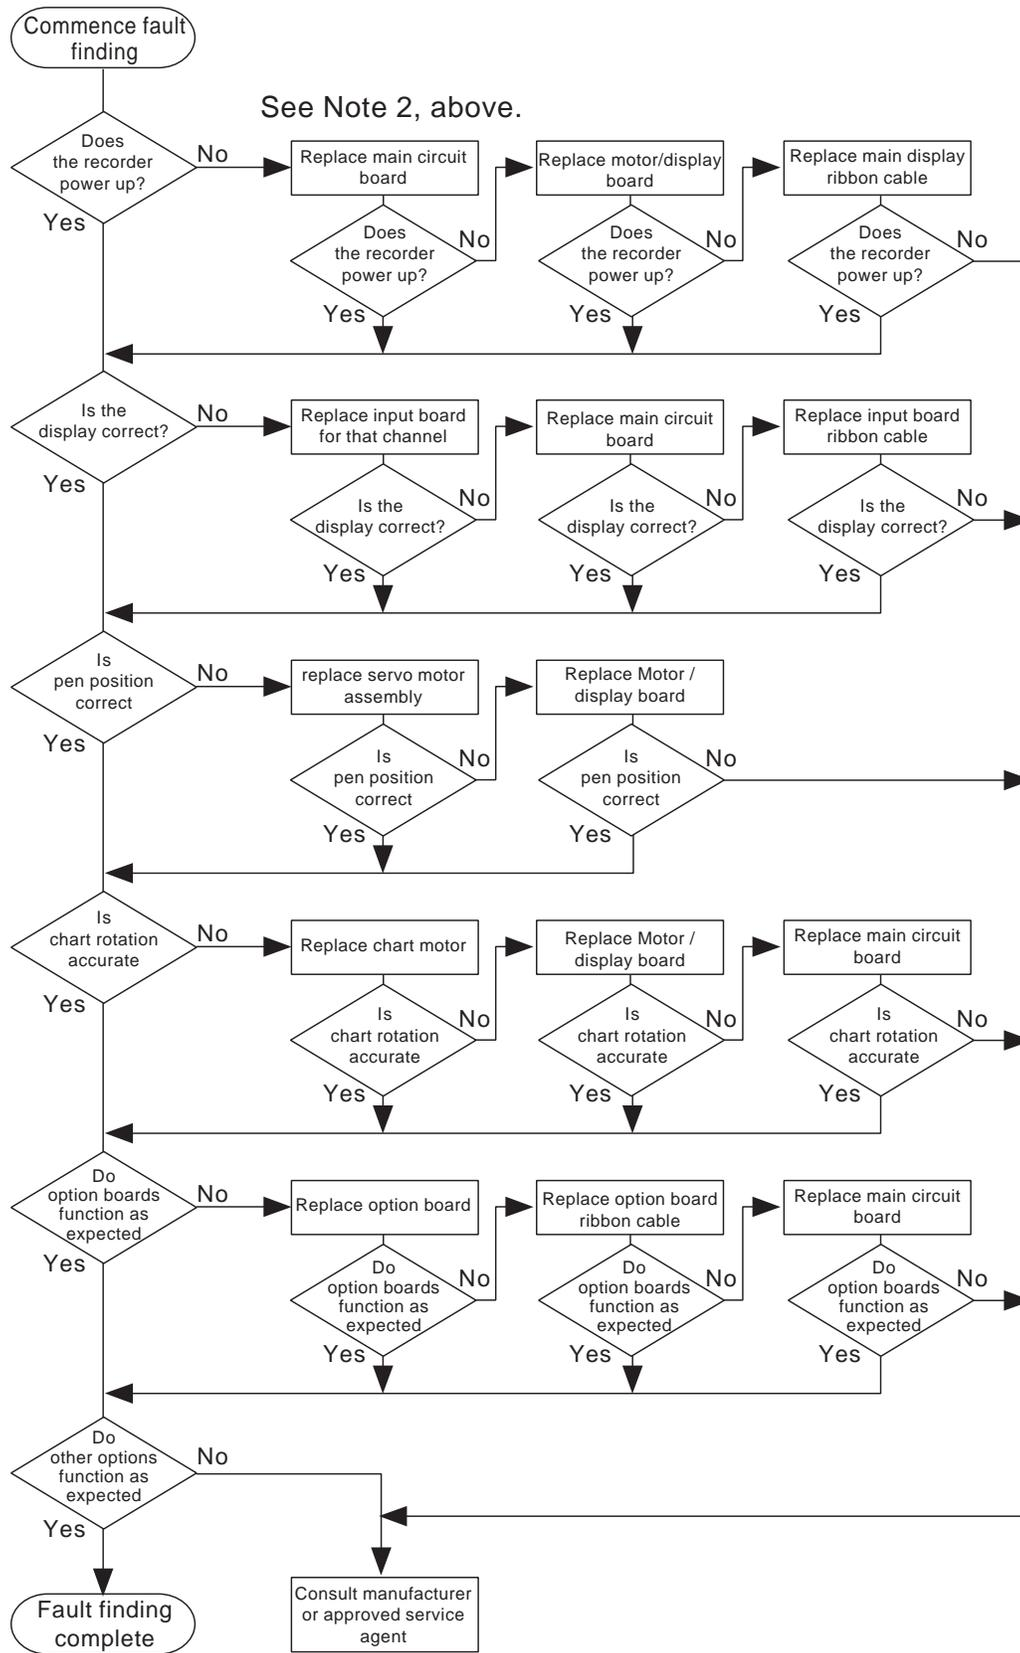

Figure 6.3 Fault finding guide
2. It is assumed in figure 6.3 that, if the recorder fails to power up, the supply voltage wiring and fuse status have been checked.